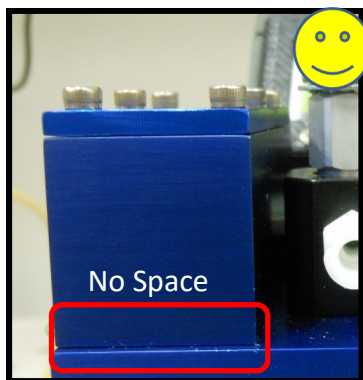

Figure 7.3-6:
13. There should be NO gap between the sparge manifold and the scrubber block! (Figures 7.3-6 and 7.3-7)